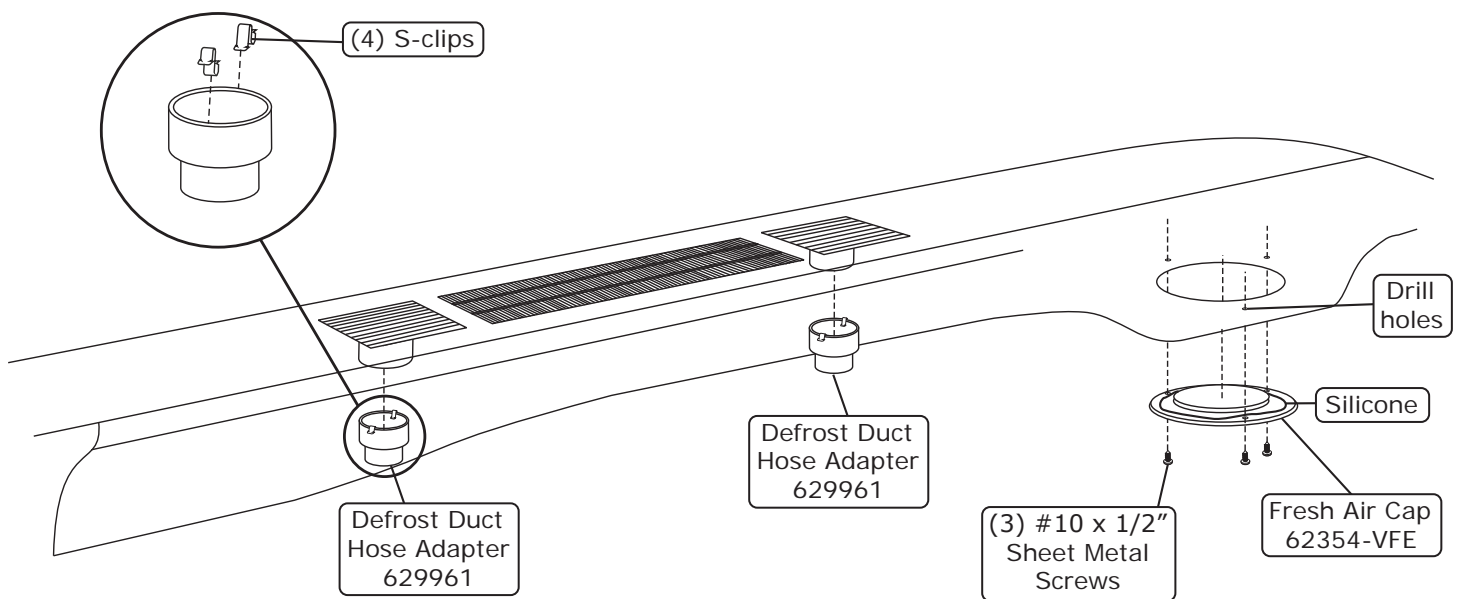

Figure 1
6. Secure the fresh air cap to the fresh air hole using (3) #10 x 1/2" sheet metal screws as shown in Figure 1, below.